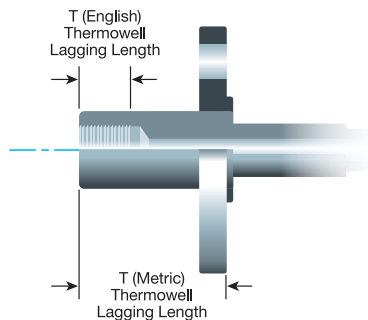

Figure 3.3.5a – Lagging Dimension
For a process temperature of 540 °C (1004 °F), an extension length of 91.4 mm (3.6 inches) yields a housing temperature rise (R) of 22 °C (72 °F), providing a safety margin of 23 °C (73 °F). A 152.4 mm (6.0 inch) extension length (R = 10 °C (50 °F)) offers a higher safety margin (35 °C (95 °F)) and reduces temperature-effect errors but would probably require extra transmitter support. Gauge the requirements for individual applications along this scale. If a thermowell with lagging is used, the extension length may be reduced by the length of the lagging. See Figure 3.3.5a.